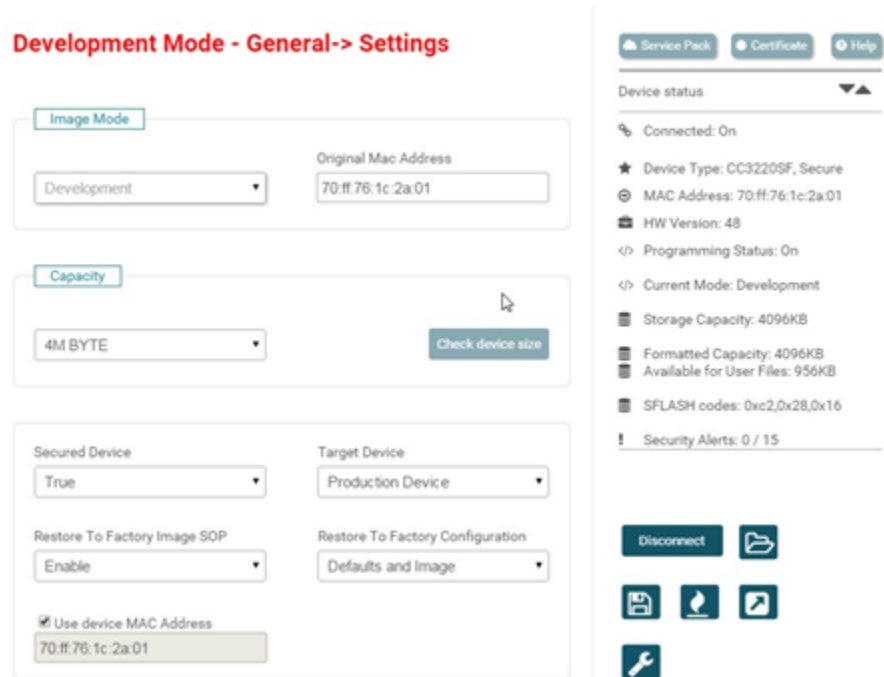

Figure 13. UniFlash General → Settings
- Navigate to General → Settings (see Figure 13) by using the left-side navigation panel and ensure that the image mode is set to Development.
- Ensure the Use device MAC address option is selected (see Figure 13) and that the MAC address appear on the top.